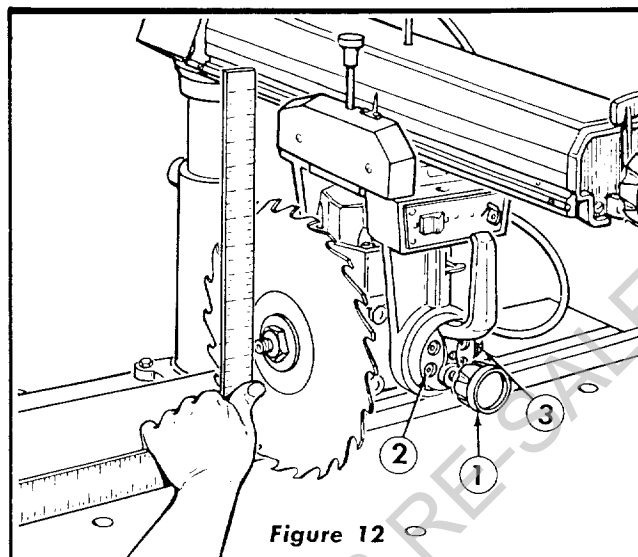

Figure 12
- Place the edge of a framing square on the table top and against the saw blade, as shown in figure 12.
- Using a 1/4-inch hex "L" Allen wrench, loosen just slightly the four socket-head screws (2, figure 12).
- Tilt the motor until the saw blade is square with the table top as shown in figure 12. Then, while holding the square firmly against the saw blade and table top, apply pressure against lower part of saw blade with the thumb until approximately 1/32-inch clearance exists between the square and lower edge of saw blade. This is to compensate for the possible slight shifting of the motor while screws (2) are being tightened.
- Tighten the four socket-head screws (2, figure 12).
- The indicator (3, figure 12) should read 0° on the bevel index scale. If not, loosen the indicator attaching screw, adjust indicator to zero and tighten the screw securely.